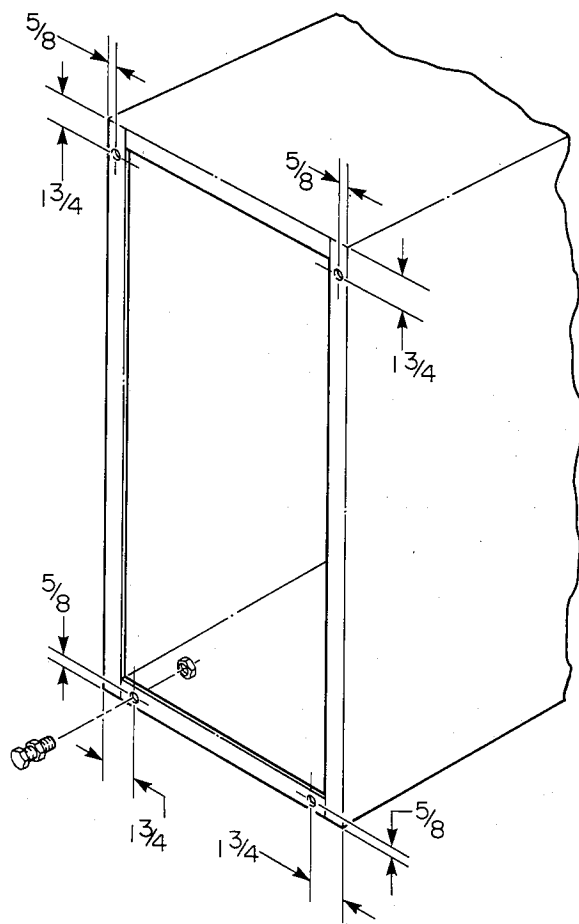

Fig. 10—Leveling Leg Installation
When the furnace is used with side inlet(s), and leveling legs are required, refer to Fig. 10, and install field-supplied corrosion-resistant 5/16-inch machine bolts and nuts.
1. Lay furnace on its back, locate and drill 5/16-inch diameter hole in each bottom corner of furnace as shown in Fig. 10.